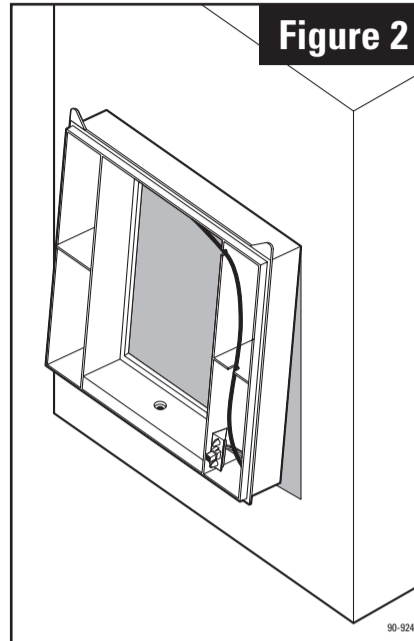

Figure 2
3. Position base (2) in duct opening top-first so hooks engage sheet metal at top. See **Figure 2**. Insert bottom of base and slide down to engage hooks at bottom.